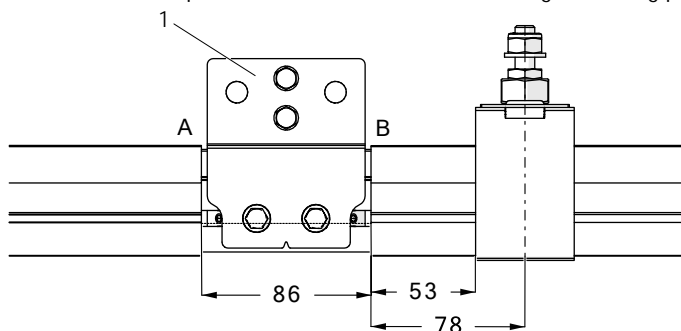

Fig. 48: Mount PE rail connectors and insulation profiles
- Push Section A, a PE rail connector (1) and Section B onto the aluminium profile and align them. Maintain the distances specified in Fig. 48.
- Fix the PE rail connector (11) with the two threaded pins (9) (5 Nm).